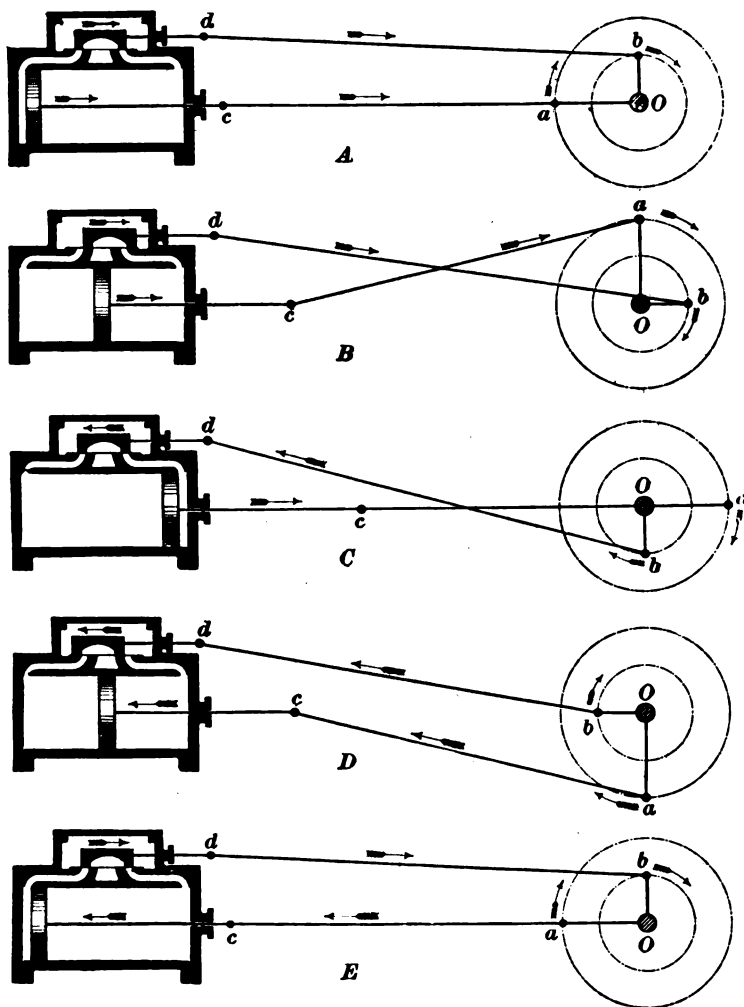

FIG. 6.
**58. Explanation of Diagrams.**—In the five diagrams of a slide-valve engine, Fig. 6, *O* corresponds to the shaft *D*, Fig. 5; *Oa*, to the piston crank *K*; and *Ob*, to the valve crank *k*. The larger circle of dotted lines represents the path of the